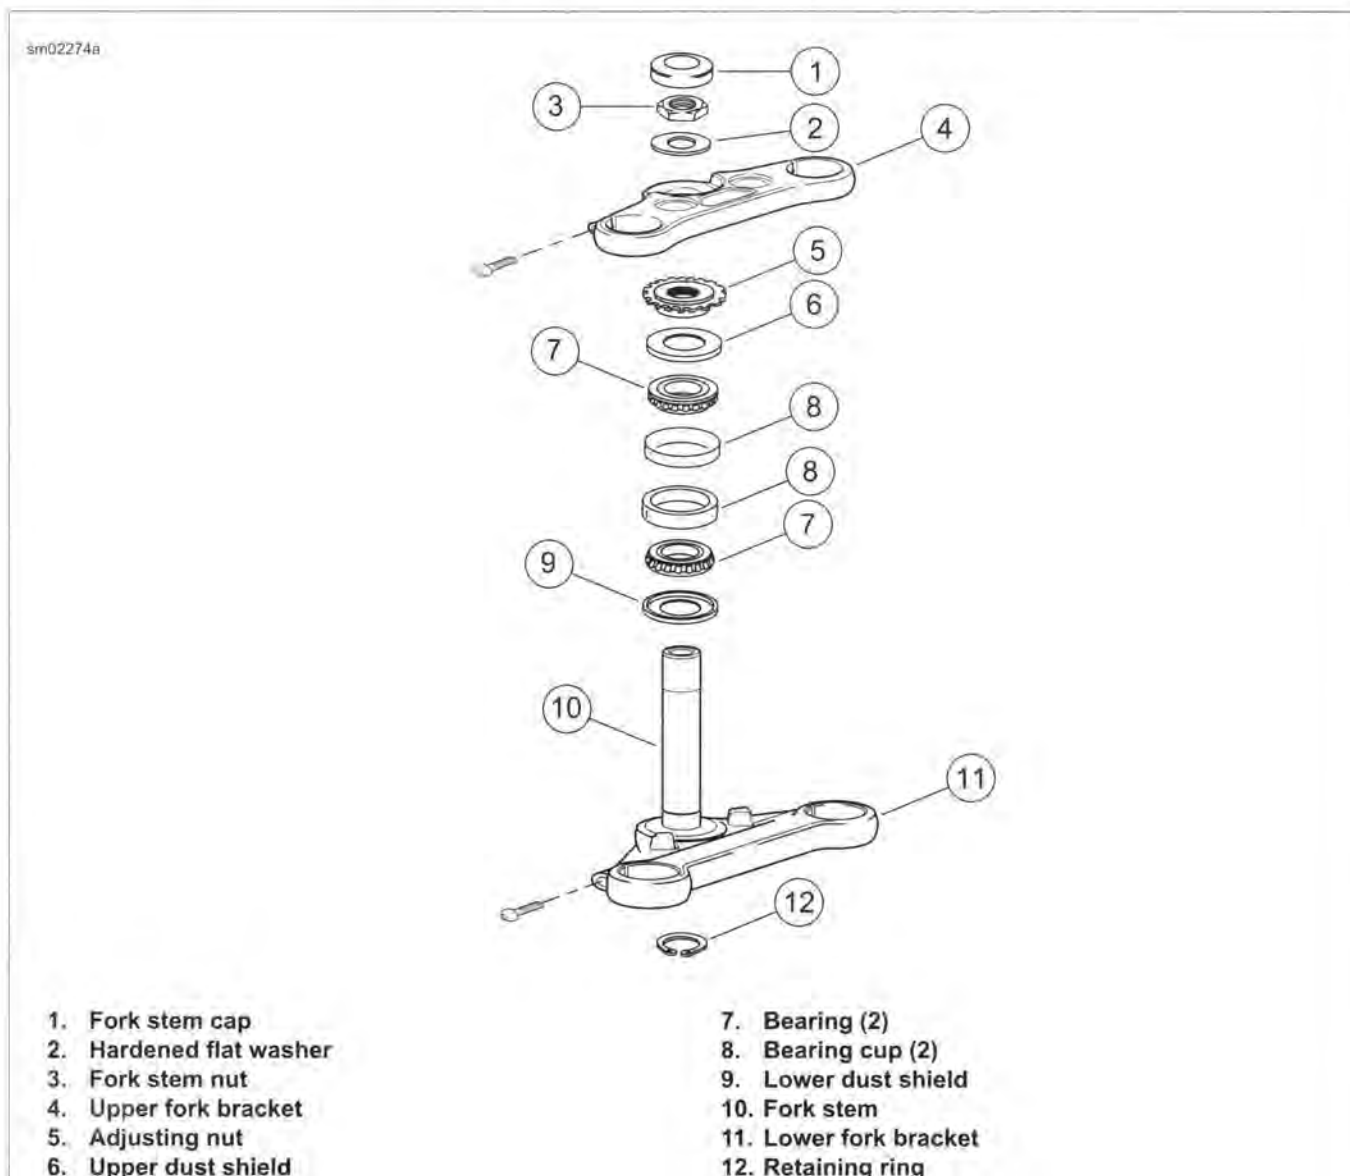

Figure 2-107. Steering Head
4. See Figure 2-107. Remove the fork stem cap (1).
2. See Figure 2-107. Install the lower dust shield (9) and **new** bearing (7) on the fork stem (10).
1. See Figure 2-107. Insert the stem and bracket assembly into the frame steering head and install the bearing (7) and upper dust shield (6).
2. Secure with the adjusting nut (5) and tighten until there is no noticeable shake or free play between bearings and races. Fork stem must turn freely from side to side.